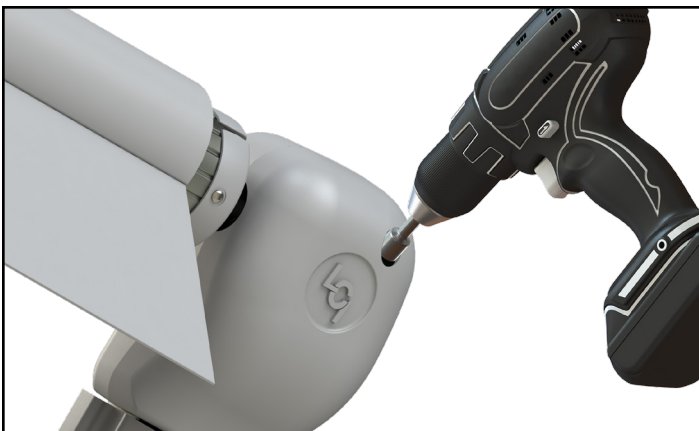

Fig.33
2. Using a 7/16" socket and cordless or electric drill or screw gun, spin the manual override nut counterclockwise to retract the awning (**Fig.33**).